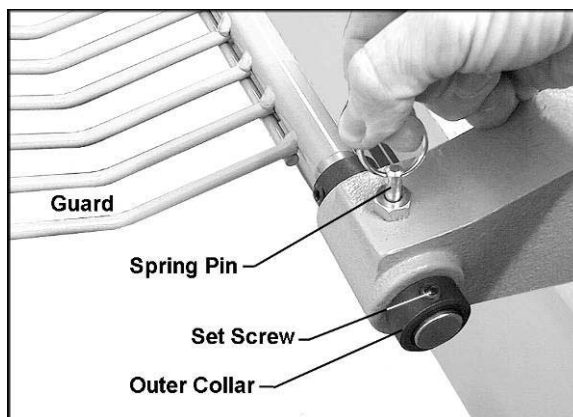

Figure 5
1. On the guard, loosen the set screw on the outer collar (shown in Figure 5) with a 4mm hex wrench. Slide the outer collar off the guard support rod.
2. Insert the guard support rod into the mounting bracket at the rear of the headstock, as shown in Figure 5. You will have to lift up on the spring pin, as shown, to slide the guard support rod into the mounting bracket. Release the spring pin and it will snap into position as you slide the support rod farther in.